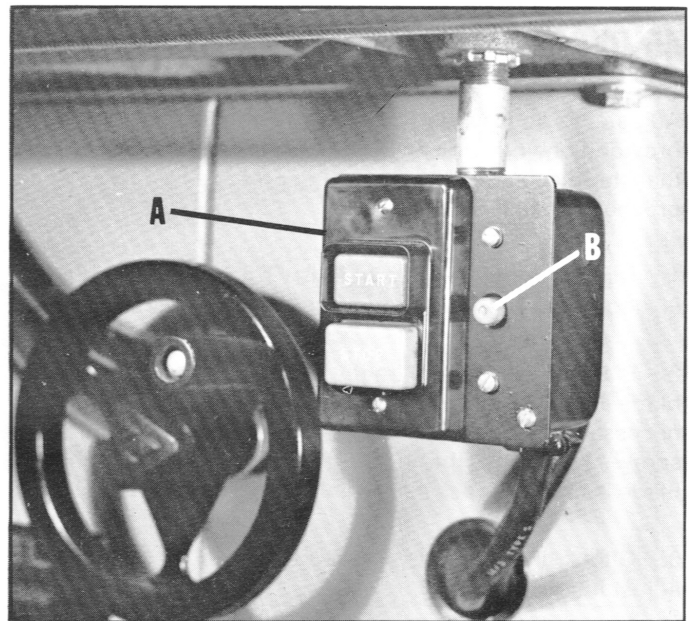

Fig. 21
If you purchased a 1-1/2 horsepower, single phase machine with manual push button switch, the controls consist of a start/stop pushbutton switch (A) and a manual reset thermal overload (B) mounted on the front of the saw, as shown in Fig. 21.
To reset the thermal overload after it has been tripped, first let the motor cool a few minutes and then press the red manual reset button (B) Fig. 21